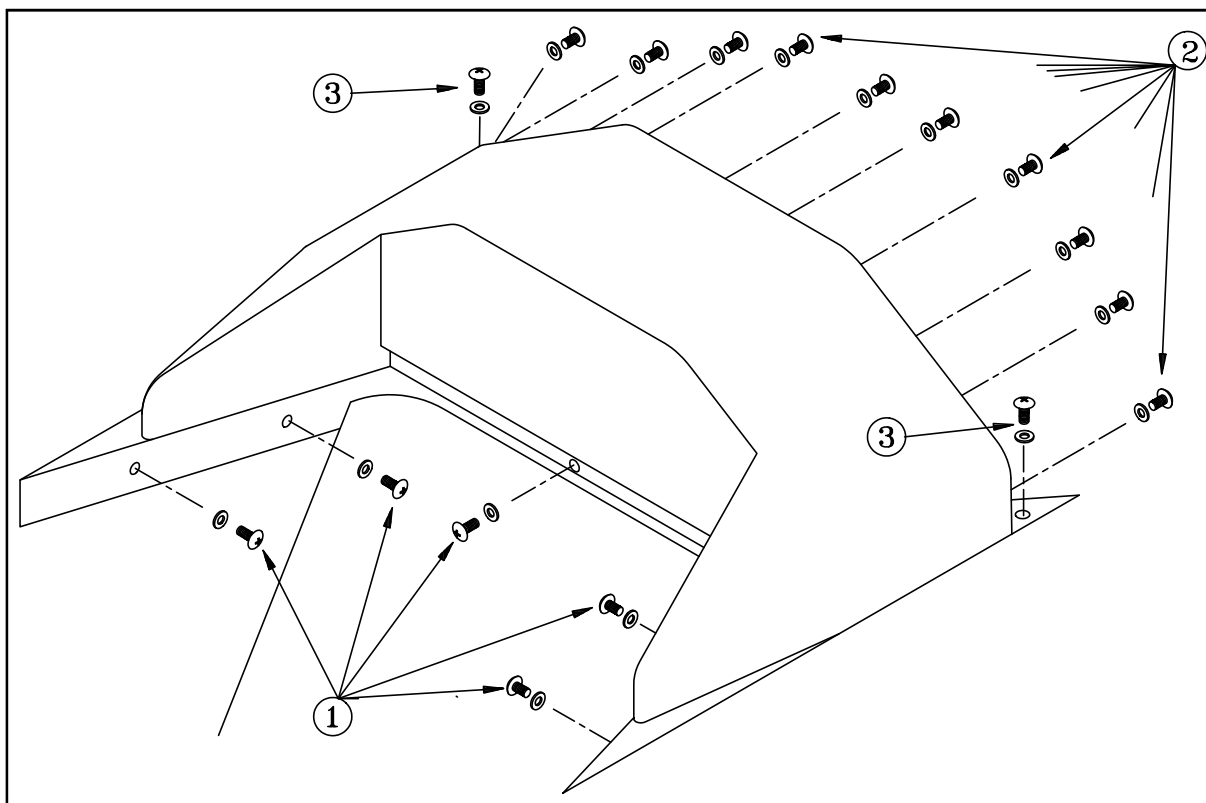

Figure 4
- 1 Remove the screws located at the top of the front seat back rest (1, Figure 4).
- 2 Remove the outer screws (2) of the rear instrument panel (the two inner screws connect the panel to the steelframe).
- 3 Remove the cockpit corner cover screws (3).